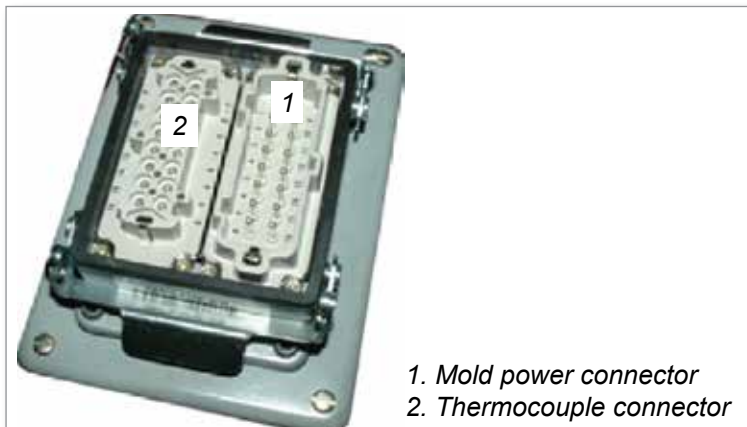

Figure 7-1 Mold plug
1. Measure the resistance between each pair of thermocouple wires on the mold's thermocouple connector. See Figure 7-1.